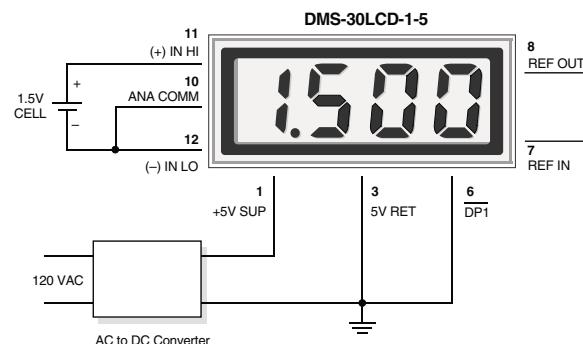
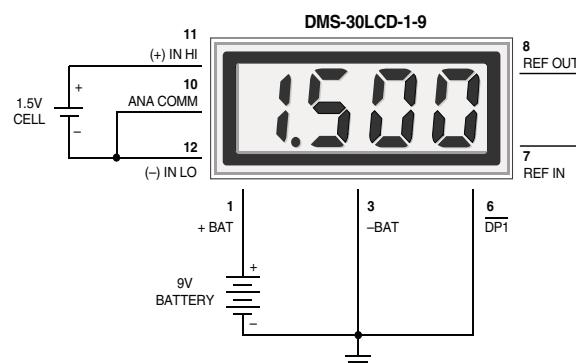

Figure 5. Floating Input Measurements (5V-Powered Models)
Figure 6. Floating Input Measurements (9V-Powered Models)
**4. Floating Signal Source Measurements:** Floating signals can be measured using the circuits shown in Figures 5 and 6. Figure 5 uses a 5V-powered meter. Figure 6 uses a 9V-powered meter. Connecting pin 10 (ANALOG COMMON) to (-) INPUT LO (pin 12) provides the reference point for the meter's input.